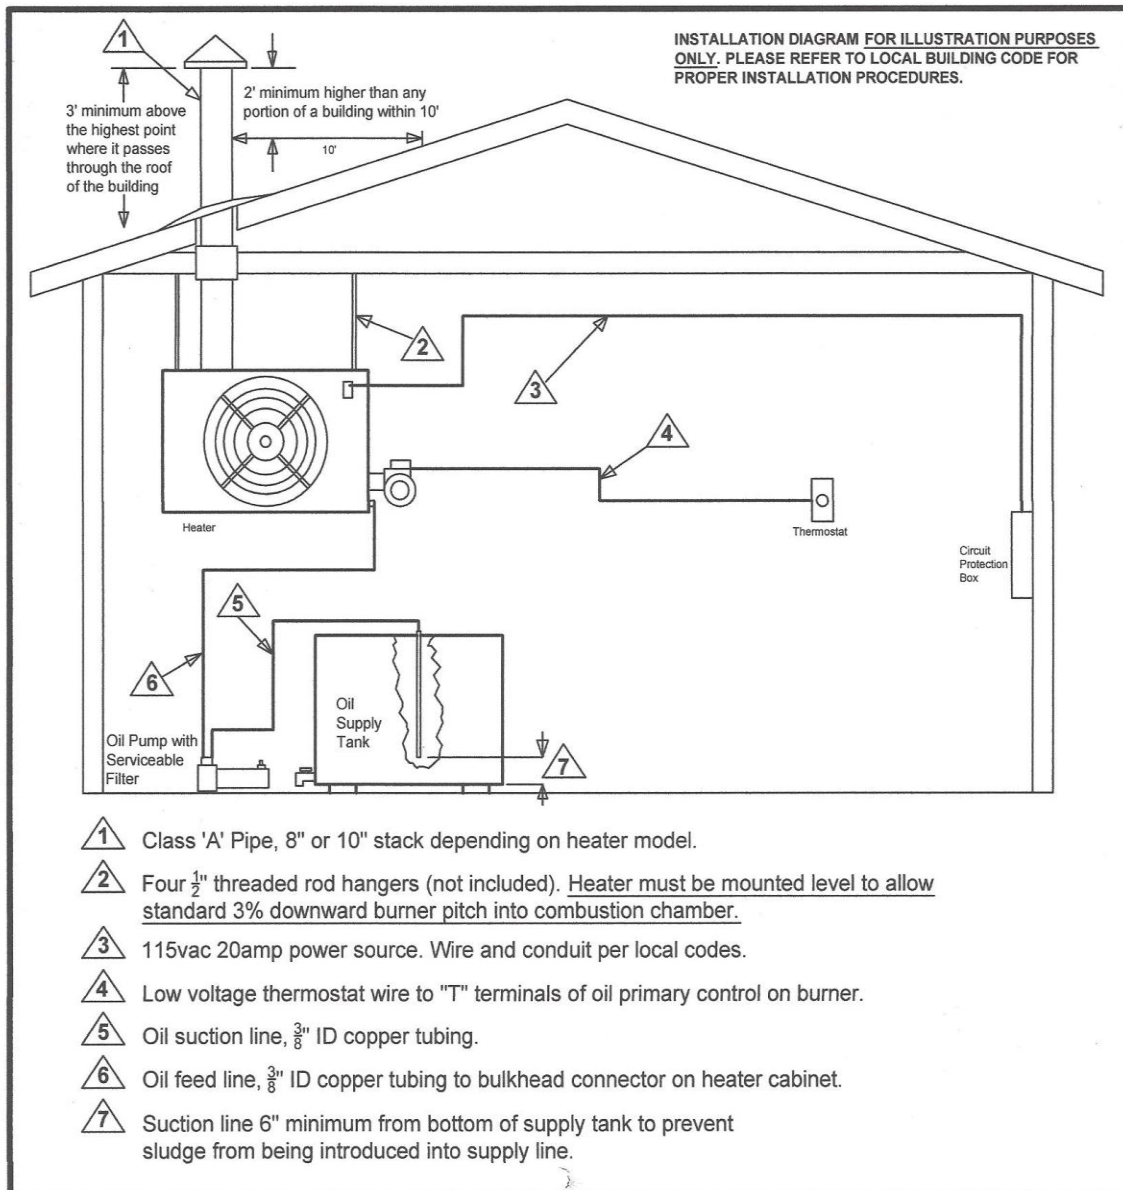
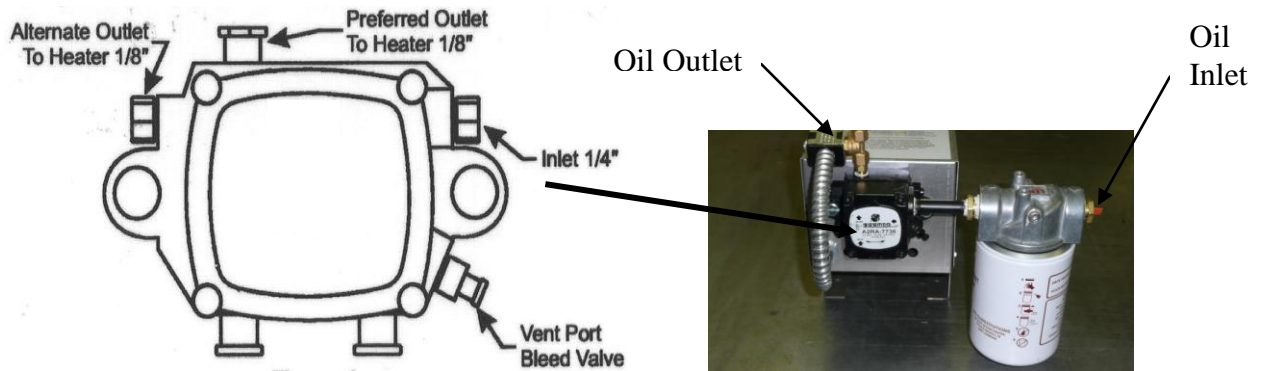

Figure 1 – Installation Diagram
Figure 6 –Oil Pump Diagram
4. **The fuel supply pump included with heater is to be mounted at tank level or below.** (figure 1). This pump turns slowly requiring a number of minutes to accomplish purging ALL air, if bubbles, skips, even slight pulsations in the oil flow from pumps bleeder port is unacceptable and must be removed assuring proper oil flow to heater. Otherwise, the flame sensor will not see enough flame and heater will lockout. **NOTE: PUMP ASSEMBLY MUST BE MOUNTED HORIZONTAL.**
5. Connect 3/8" oil supply line from the supply tank through the filter (figure 1) to the pump inlet located same side as bleeder port. (figure 6) Continue oil supply line from pump outlet to bulk head fitting secured to cabinet at left side of burner assembly (bulk head fitting has fuel flex hose connecting it to burner).
5. Priming the oil pump: Open bleeder valve one turn until all air is expelled (figure 6). This may need to be done twice to insure all air is removed. **IMPORTANT:** When fully purged and flame is established remove temporarily jumpers on "F" terminals of the Oil Primary to allow safety features of the unit to operate properly.
12. Priming the oil pump: Open bleeder valve one turn until all air is expelled (figure 6). This may need to be done twice to insure all air is removed. **IMPORTANT:** When fully purged and flame is established remove temporarily jumpers on "F" terminals of the Oil Primary to allow safety features of the unit to operate properly.